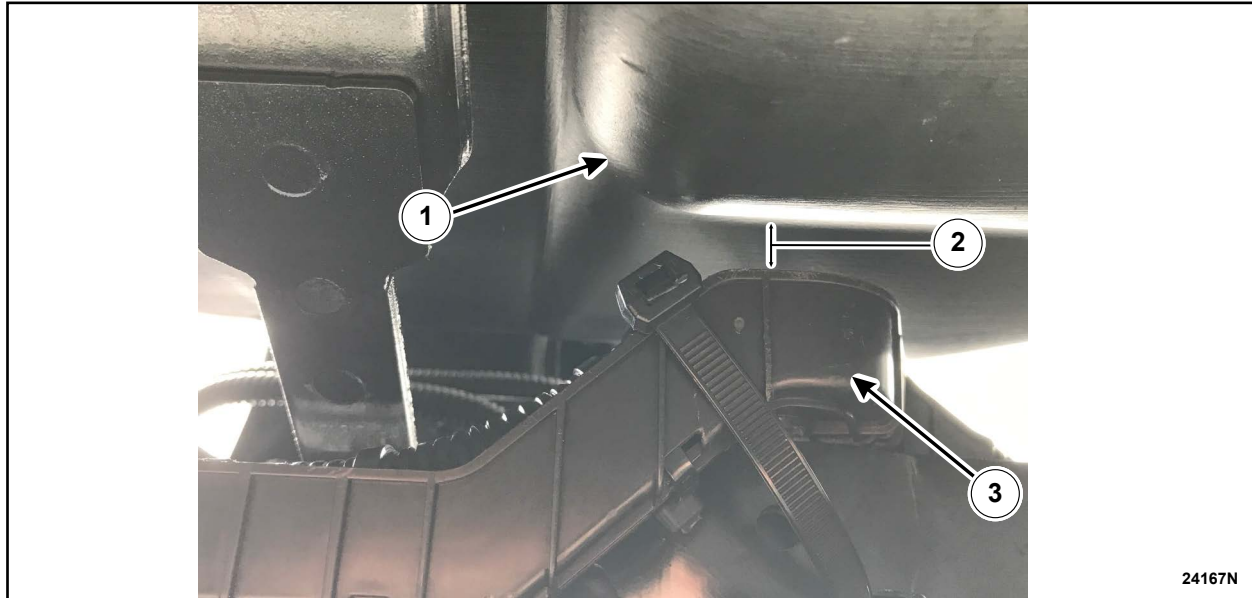

FIGURE 28
7. Using two (2) of the larger supplied tie straps, secure the harness shield to the reinforcement bracket using the existing holes in the reinforcement bracket.
8. Ensure that the wiring harness shield has at least 9.5mm (0.37 in.) of clearance from any contact to the mid ship fuel tank. See Figure 28.